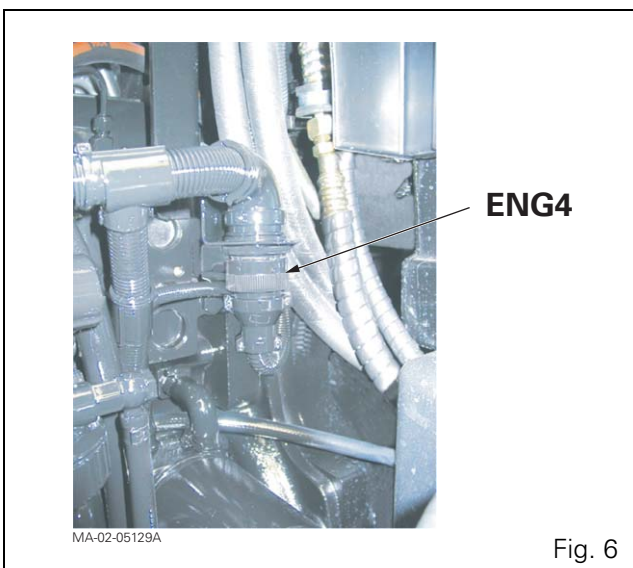

Fig. 6
19. Mark and disconnect the ENG4 connector from the main harness at the rear of the engine (Fig. 6).